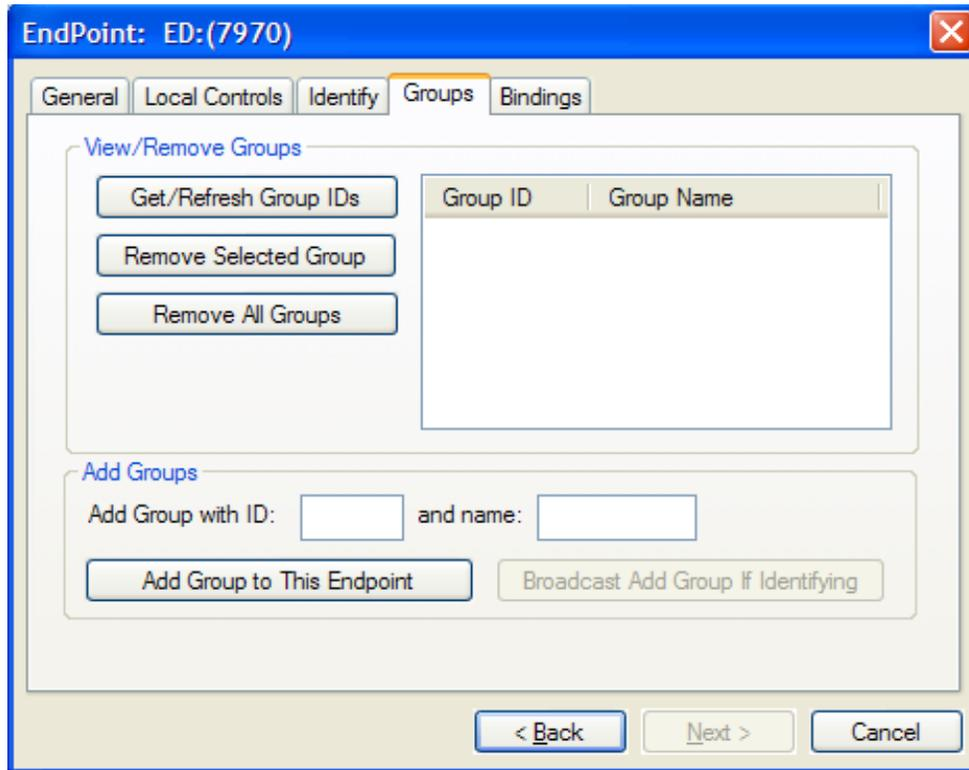

Figure 4-23. Dimmable Light Group Tab
8. Click on the Groups Tab on the Dimmable Light Endpoint properties window. This group provides an alternative way of adding groups and also allows users to remove all or one of the groups that the endpoint was added to. The Groups Tab is shown in Figure 4-23.